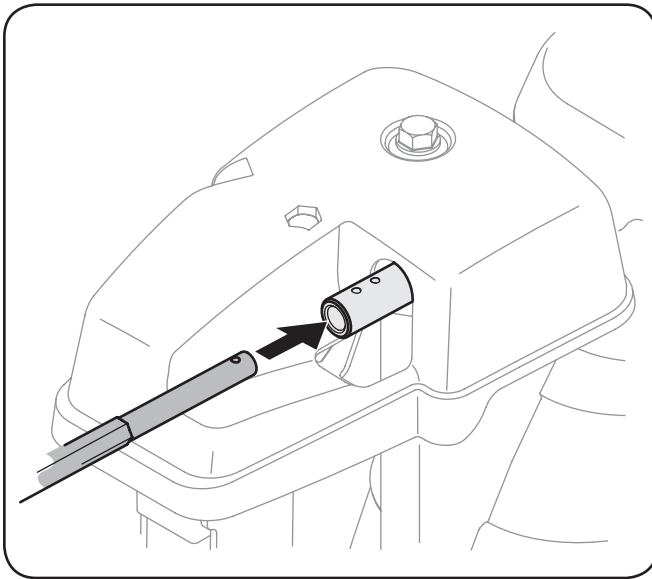

Fig. 3-4
2. Insert round end of the chute control rod (hole pointing upward) as far as possible into chute control assembly. See Fig. 3-4.